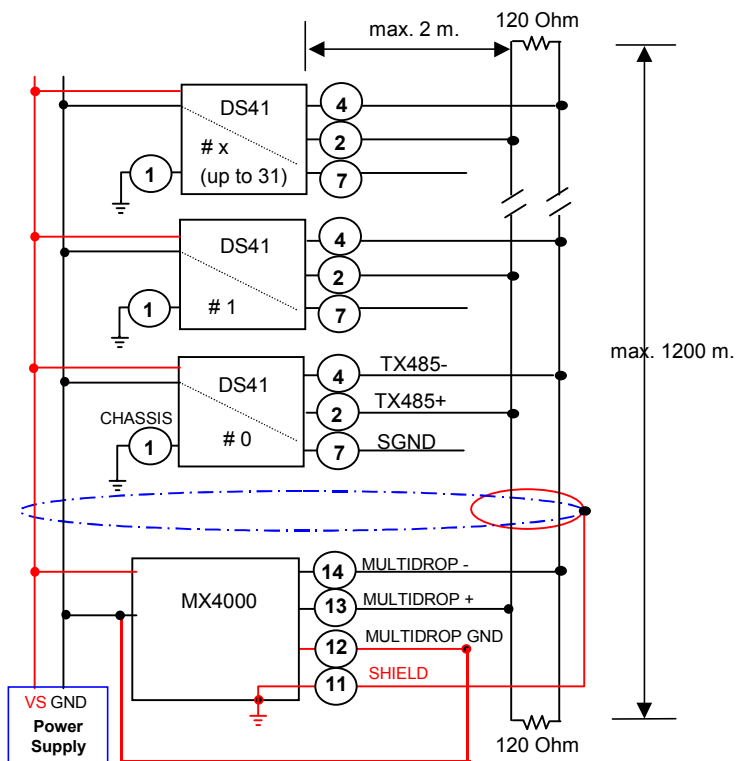

Figure 23 – Single cable (power+multidrop line+shield)
- We suggest using the single cable layout in Figure 23. If not possible the separate Power Cable (VS-GND) **should** be handled as a signal cable (do not put it together with other power cables) and **should** lie down as near as possible to the multidrop cable (avoiding wide loops between them).